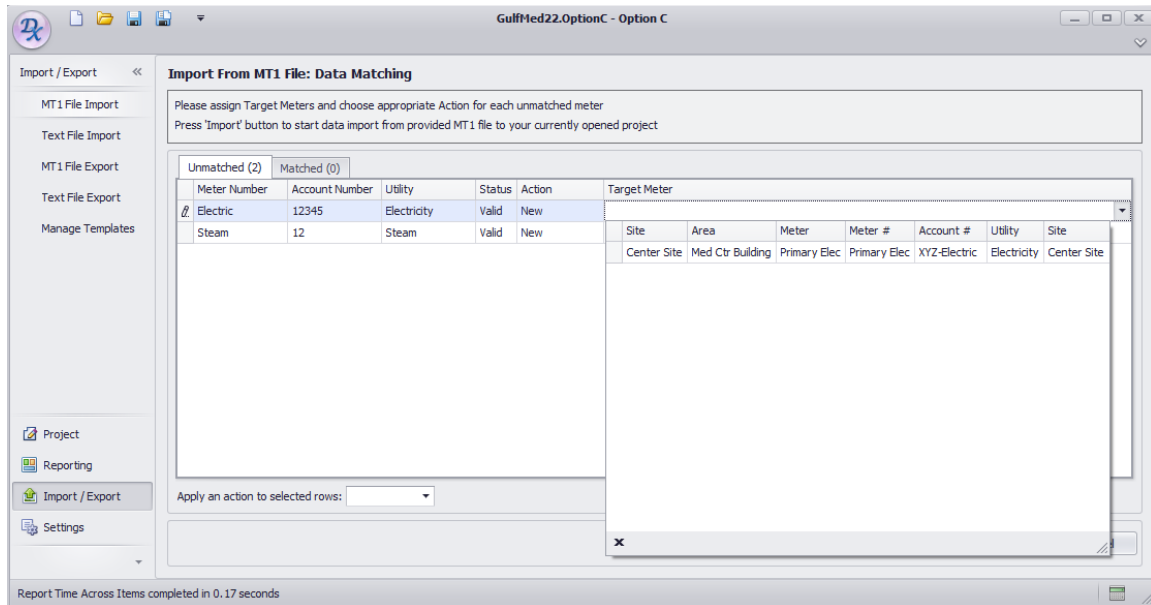

Figure 5.5: Target Meter menu selection.
4. **Select Target Meter for unmatched meters:** for meters with Actions set to Import or Import/Update, a Target Meter must be selected. Clicking on the corresponding cell, a menu with all meters in the project sharing utility type with the unmatched meter will appear (see Figure 5.5). Select the correct meter from this menu.